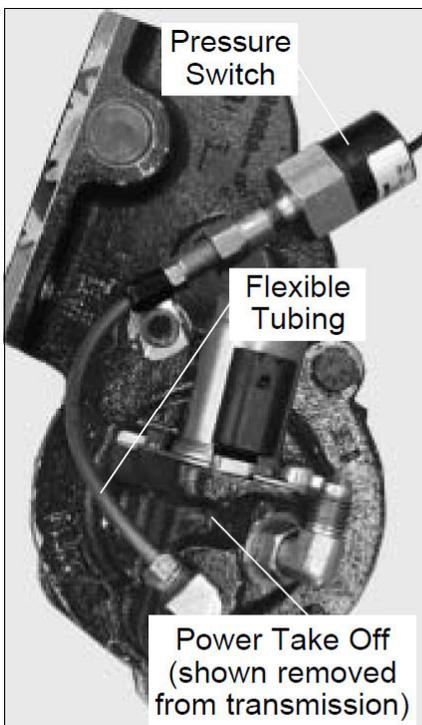
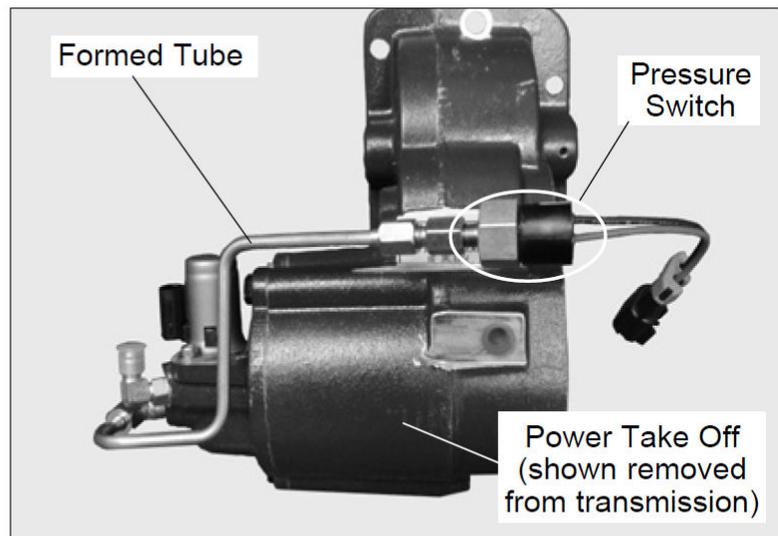

Figure 2 — Front Pressure Switch Location
Figure 3 — Side Pressure Switch Location
4. Use your hand to determine if the thermal blanket is wet with fluid. Look at the pressure switch to see if it is leaking transmission fluid. The pressure switch is located either on the front side of the PTO connected to a flexible tube (Figure 2) or on the side near the rear of the PTO connected to a formed tube (Figure 3.)